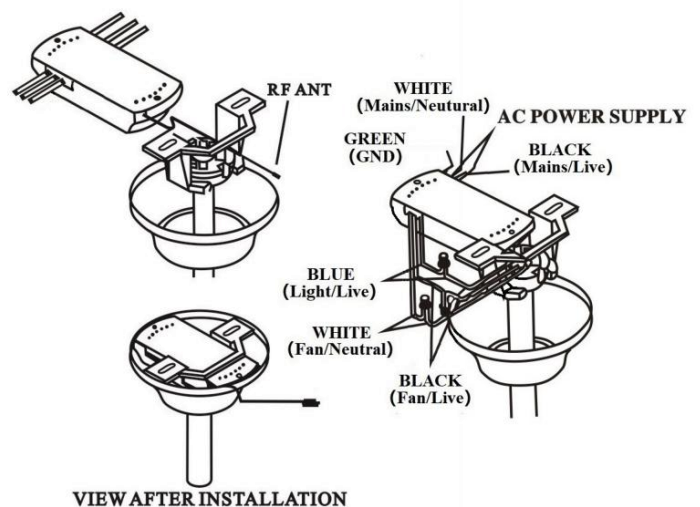

Fig. 1.2
5. Once the connection has been made, the receiver inserts into the drop rod hanging bracket. The canopy comes up to cover the receiver and bracket. (Fig. 1.2)